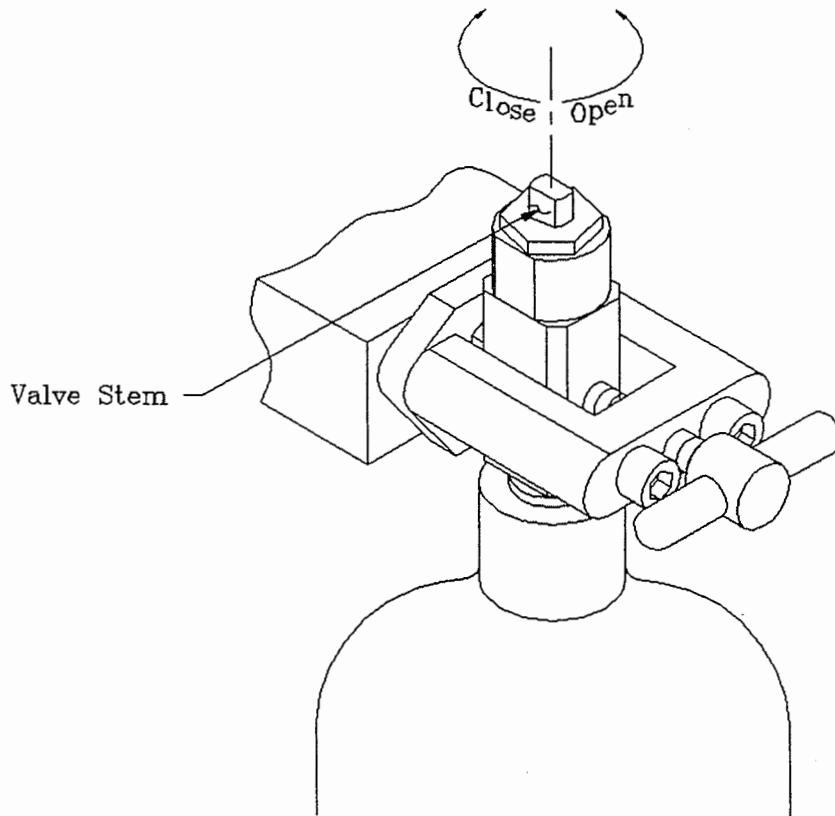

Figure 25
B) CYLINDER MOUNTING (see fig 25)
2. For portable systems utilizing "E" cylinder tanks, refer to Figure 25.